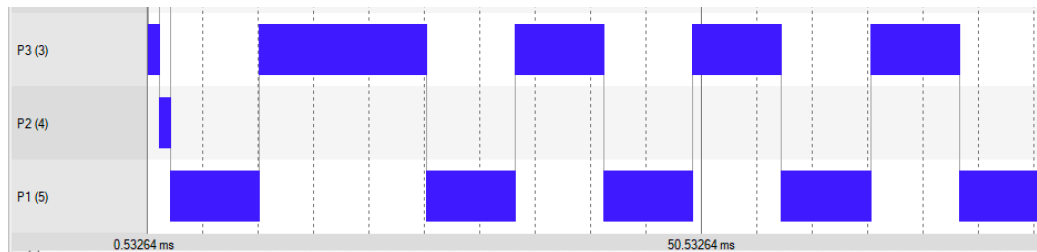

Fig 8: No priority inversion error.
20) Compile and enter Debug mode. Simulate modified code. See (Fig 8) and (Fig 9).